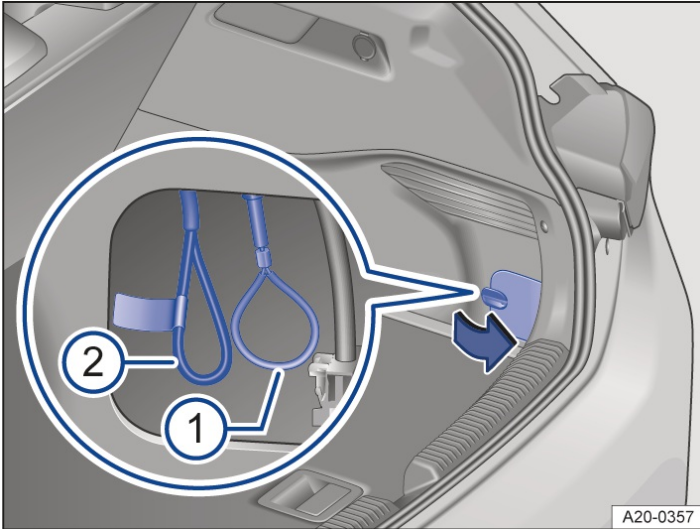

Fig. 1 Behind a flap in the right-hand luggage compartment trim: Manual release mechanism for the charging connector (1) and emergency cut-out connection (2).
- Open the luggage compartment. On the bottom right there is a flap with a catch → Fig. 1.
- Pull the loop for the manual release mechanism → Fig. 1 (1). The loop does not have a tag → ! The charging connector can now be removed → ⚠.
There is a fuse loop for the high-voltage system for use by emergency services directly next to the loop for manual release → Fig. 1 . The fuse is marked with a yellow tag → .